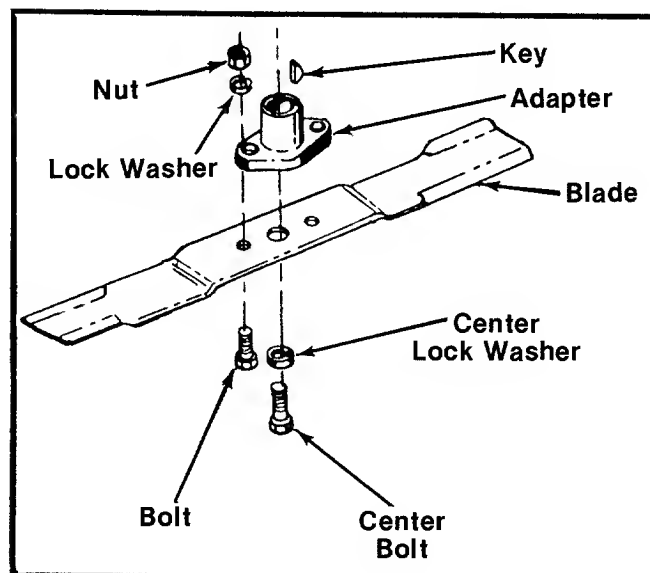

FIGURE 21.
1. Remove the large bolt and lock washer which holds the blade and adapter to the engine crankshaft. See figure 21.